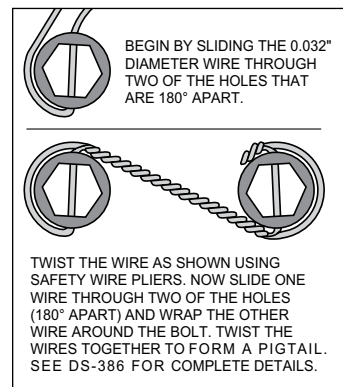

Figure 4
STEP 7 Orient the rotor (22) and the hat (23) as shown in Figure 1 and Photo 8. Attach rotor to hat using bolts (24) and washers (25). Apply red *Loctite*® 271 to the bolt threads and torque to value shown in Figure 1 using a criss-cross pattern. For an added measure of security, the bolts may be safety wired using standard 0.032 inch diameter stainless steel safety wire as shown in Figure 4. Refer to Wilwood's data sheet DS-386 (available at www.wilwood.com/Pdf/DataSheets/ds386.pdf) for complete safety wire installation instructions.